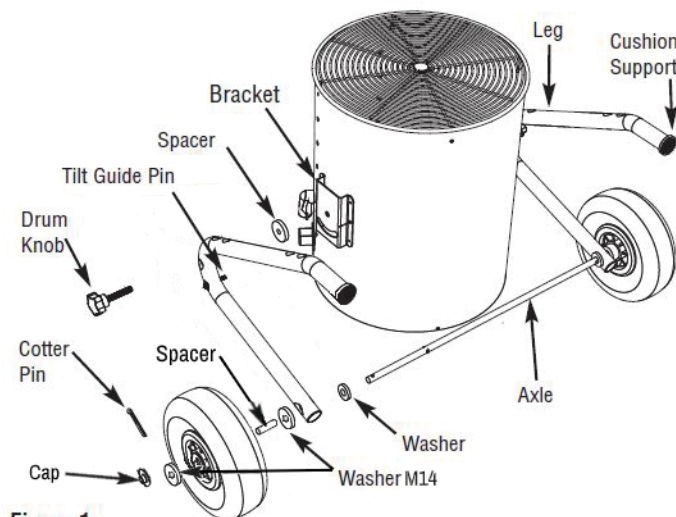

Figure 1
Support Legs and Axle Assembly (Figure 1)
2. Place a washer onto each end of the axle and then slide the legs over the axle until they are against the axle stops. Make sure the legs are oriented so the tilt guide pins face in (see Figure 1).